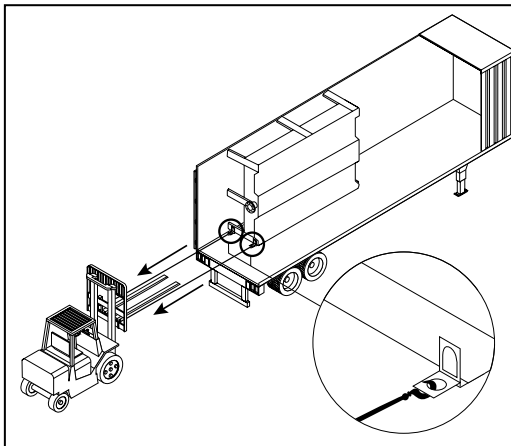

Figure AP-4: Pulling the basin out from a container
- D. Some models are shipped in a two-piece body. Basin section is mounted metal skids to protect and facilitate unloading. Use a steel cable to grab the metal skids and drag it to the edge of the container and leave half of basin section inside the container. See Figure AP-4.